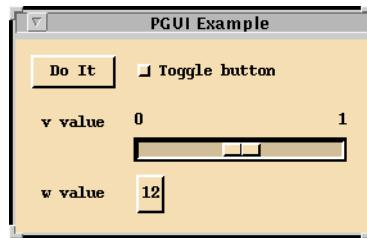
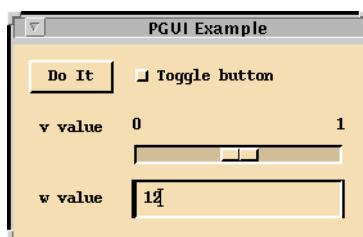

FIGURE A-2 Programmable GUI Examples
FIGURE A-3 PGUI Example Dialog After Pressing the **12** Button
Tools that use the GUI will create windows that contain, control elements such as pushbuttons, sliders, pulldown menus, plots and lists. For example, Figure A-2 shows the Programmable GUI (PGUI) Example “Do It” dialog.
- A **button** (square shaped) is either on or off. Its indicator is filled in when it is on. It can be toggled by pointing and clicking the left mouse button. The button shown in Figure A-2 on page A-2 is off. Activating a pushbutton causes some action to be performed.
- The pushbutton labeled **12** shown in Figure A-2 on page A-2 is a variable edit box (displaying the value of the variable *w*). If you press this button, it is replaced by the "w value" text entry area as shown in Figure A-3. After entering a value from the keyboard, the text entry area is replaced by the button (for example, the **12** button).
- GUI windows might contain *sliders*, which resemble linear potentiometers and whose values are changed by a linear motion of the handle. The position of the slider's handle represents its value. Usually the limits of the slider are shown at its ends. Figure A-3 on page A-4 shows a slider with minimum value 0 and maximum value 10. Its value is about 6. The value of a slider can be changed in several ways: